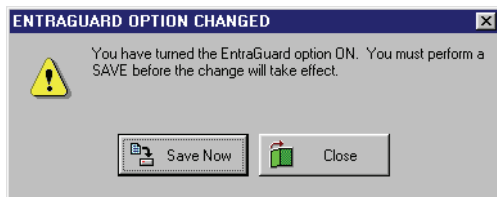

Figure 10-2: EntraGuard Option Changed - ON
3. Click on the **EntraGuard ON** check box. A check mark appears in the box. Because the changes required to implement the EntraGuard feature make major changes to the *Doors* program and its supporting databases, a confirmation window appears (see Figure 10-2).